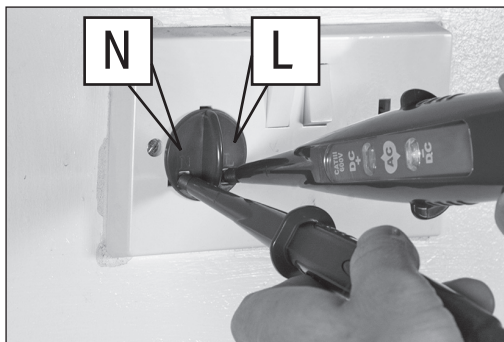

Fig. 2
When testing three-pin plug sockets with shielded contacts, insert the socket gate (B) into the socket to open the guards and insert the probes through the appropriate openings (Fig. 2).
- **N (Neutral):** Insert the L1 negative probe (1)
- **L (Load):** Insert the L2 positive probe (2)